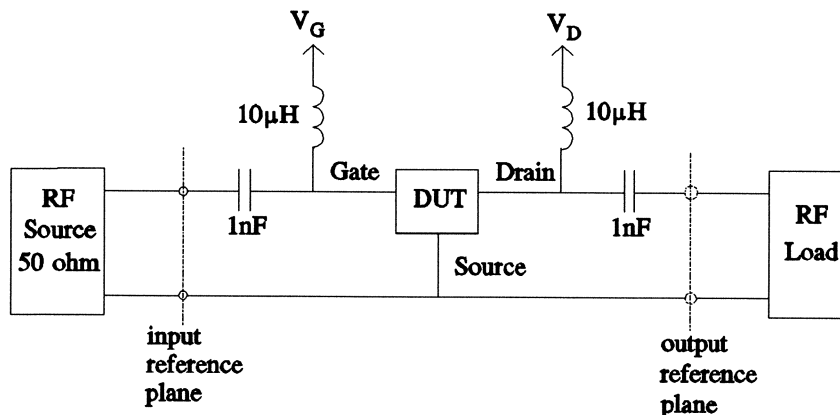
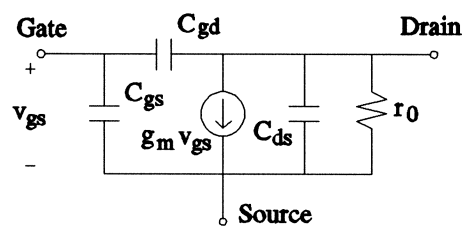
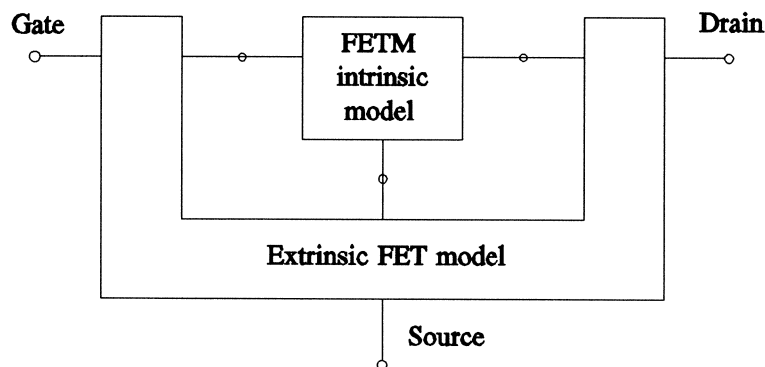

Figure 4-1.
Figure 4-2.
Figure 4-3.
A microwave Schottky barrier FET (MESFET) has been measured in the setup shown in Figure 4-1. Measurements of S parameters with respect to 50Ω were taken at the input and output reference planes for 17 frequencies in the range from 2GHz to 18GHz and for three values of the gate bias voltage V_G : 0, -1.74 and -3.1 volts. The drain bias voltage V_D was fixed at 4V. The blocking capacitors of 1nF and inductors of $10\mu\text{H}$ were used to decouple the DC biasing circuit from the RF (or AC) circuit. The resulting S parameters are contained in an ASCII file generated by MicroCAT™ Test Executive system from Cascade Microtech. Make your own copy of that file by executing the command "cp /home/engine/ee761/cascade.dat ./"
Throughout this lab you will investigate two models for the FET. The first one is a simple small-signal model which may be suitable for simulating the FET around a specific operating point, determined and established separately. This model is shown in Figure 4-2. It consists of a voltage-controlled current source and three lumped linear components. If the biasing of the FET is dropped out of the picture the resulting circuit is linear. The second model, shown in Figure 4-3, is a global, large-signal nonlinear model which accounts for all nonlinearities, including biasing. In this lab you will use the Materka and Kacprzak built-in intrinsic nonlinear model (FETM) together with a built-in super-component "Extrinsic2" which consists of a number of linear elements connected internally in a predefined manner (Manual Chapters 7 and 8 - "Nonlinear Elements" and "Linear Elements").
- (1) Create the OSA90/hope™ Input File. It is recommended that you use default microwave units. Define the Model block. Describe the circuit of Figure 4-1 with the model of Figure 4-2 put in place of the device under test (DUT). Use "CAP", "VCCS" and "RES". You do not need to include the bias sources in this experiment, and you may exclude the blocking capacitors and inductors (if so, the overall circuit will simply reduce to that of Figure 4-2). Define the ports using "PORT" statements. Assume the following values for model parameters.
All these parameters are to be optimizable. Be careful when you define the "VCCS". The orientation of the source in Figure 4-2 is opposite to that in the Manual. After completing the circuit description with the "CIRCUIT" statement define the array "SP_SIM[8]" of simulated S parameters in the following order: $\text{Re}(S_{11})$, $\text{Im}(S_{11})$, $\text{Re}(S_{21})$, $\text{Im}(S_{21})$, $\text{Re}(S_{12})$, $\text{Im}(S_{12})$, $\text{Re}(S_{22})$, $\text{Im}(S_{22})$, which is the order of the data in each row in the file "cascade.dat".
- (1) Retrieve either of the files used in Experiment 2, Step 2. Go to the secondary window of the editor. Read in the file `"/home/engine/ee761/lab4model.inc"`. Mark the whole contents of the file and copy it to the primary file. This is the model shown in Figure 4-3 to be put in place of DUT in Figure 4-1 and should replace the description of the small-signal model used in preceding experiments. You may have to adjust the node numbers. You also need to include the blocking capacitors and inductors of Figure 4-1, and, using "VSOURCE", to define DC bias sources. When defining V_G , introduce a new array "VGS[3]" and a new bias index "K", which will be swept, and select the value of V_G using "VDC=VGS[K]". Adjust the number of rows of the matrix "SP_DATA" to accommodate all 51 lines of data from the file "cascade.dat". It is recommended that you edit that file (do not forget to delete the first column), save it under a different name such as "sp_data.inc" and use the "#include" directive in the input file. Now, to select the row of the data which corresponds to the Kth bias point and the Lth frequency you need the selector index $KL = (K-1)*17 + L$. Finally, you need to define a double sweep in the Sweep and Specification blocks. Make "K" as the outer sweep label and "L" as the inner sweep label. Save your file and show it to the instructor.
- (2) *Optional:* Define the parameter "NAME" for the drain bias source. Define the array "Ids_DATA[3]" and initialize it with the measured values of the current I_{ds} contained in the file "cascade.dat". Define the array "ID_ERROR" as the difference between the Kth element of "Ids_DATA" and the simulated DC current through the V_D source, multiplied by 50, the weighting factor for optimization. Include "ID_ERROR" in the Sweep and Specification blocks.
- (3) Perform simulation and view the error functions. Invoke the ℓ_1 optimizer. After optimization is completed, perform circuit simulation again, go to the file editor and save the back-annotated file under a different name. Again, view the error functions. Complete the following table with approximate values (order of magnitude).